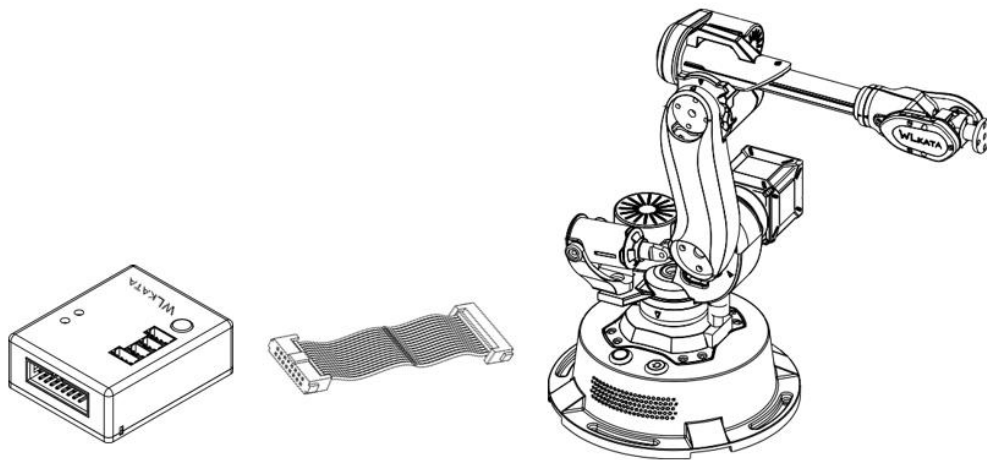

Figure3.46 The connection between Bluetooth extension module and Mirobot manipulator
- (1) Connect the Bluetooth extension module and the communication extension interface on the back of the Mirobot manipulator base, as is shown in Figure 3.46.